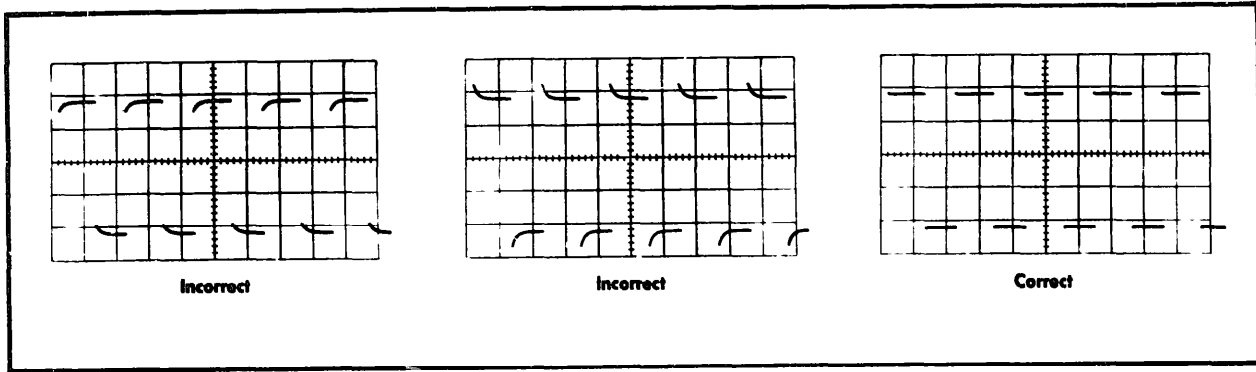

Fig. 2-4. Probe compensation waveform using 1-kHz calibrator signals.
- 4 Adjust the probe compensation for best square-wave response as shown in the right-hand picture of Fig 2-4